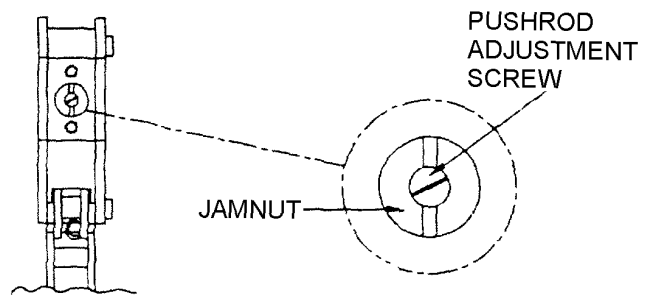

Figure 37. Adjustment of Safety Cable Indenter (Same for Hand and Pneumatic Tool Models)
64. **SCT32080 TOOL.** Unlock the jamnut using the SCT32084 tool (supplied by the manufacturer). Adjust the pushrod adjustment screw using a 1/4-inch straight edge screwdriver (Figure 37). Turn the screw clockwise to loosen the crimp (enlarge the gaging dimension), or counterclockwise to tighten the crimp (reduce the gaging dimension). After each adjustment, securely tighten the